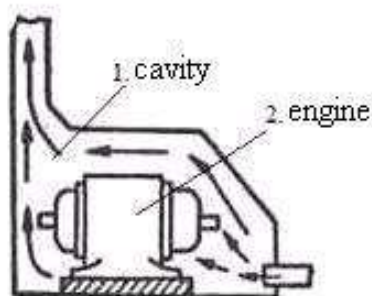

Figure 1 Blowing the insulation of the windings with current
**The main materials of the research.** External heating is used if the active part of the machine has become wet. To do this, the insulation of the windings is dried with a coolant in the form of hot air (Fig. 1), using blowers with heaters, incandescent lamps and heating resistors. The amount of air required when using a blower per minute is equal to one and a half volume of the chamber in which the electric motor is dried. The power of the heating element must be equal to the volume of the chamber in cubic meters. If the volume of the chamber for drying the electric motor is 8 m3, then the volume of hot air required to pass through this chamber should be 12 m3, and the power of the electric heating element - 8 kW.